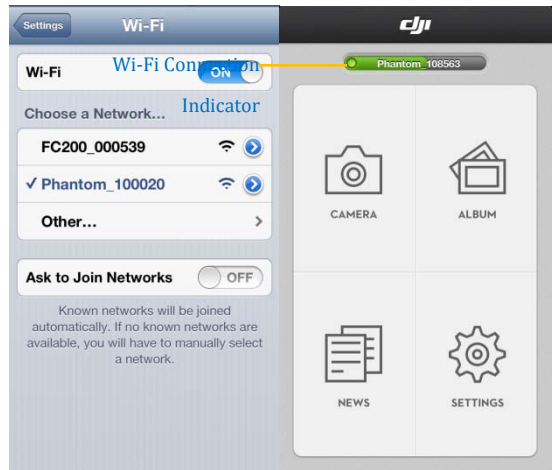

Fig.3
4. (Fig.1) Run the DJI VISION App->Settings->General->Binding. (Fig.2) Select 'Scan the QR Code' to scan the camera QR code on the product packaging. (Fig.3) Get the camera SSID (E.g. FC200\_0xxxxx) and the MAC address. Users can also skip the scan and enter the camera MAC address directly (Fig.4, Fig.5), the MAC address can be found on the label on camera.
5. Tap the "CAMERA" icon and the DJI VISION Appwill establish a live camera preview (Fig.3). This means everything is now functioning.